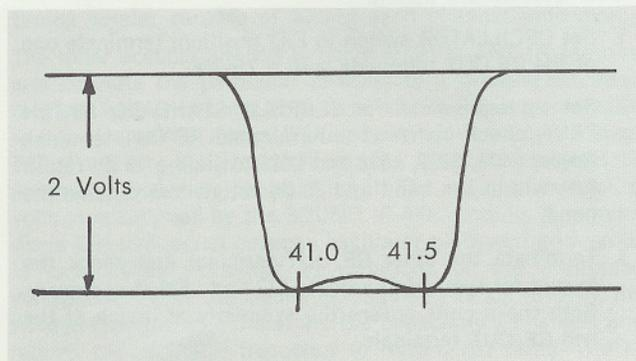

Fig. 8—Response Curve (C221 and T202 adjustment)
9. Now adjust C221 and top and bottom of T202 for response curve shown in fig. 8; keep the sweep input to a level so as to maintain a 2-volt deflection on the oscilloscope; the flat portion of the curve should vary not more than 0.2 volts (approx. 1 db).